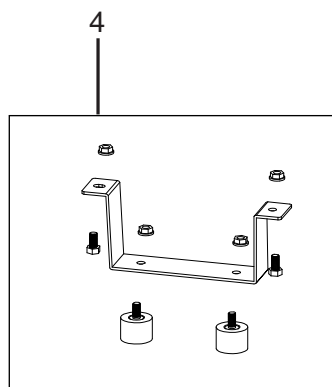

Fig 4
- 4) One generator leg with bolts and nuts Fig 4